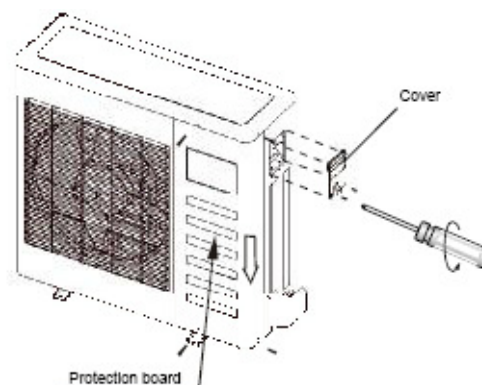

Fig. 9-2
- Disassemble the bolts from the cover. (If there isn't a cover on the outdoor unit, disassemble the bolts from the maintenance board, and pull it in the direction of the arrow to remove the protection board.) (Refer to Fig.9-2)